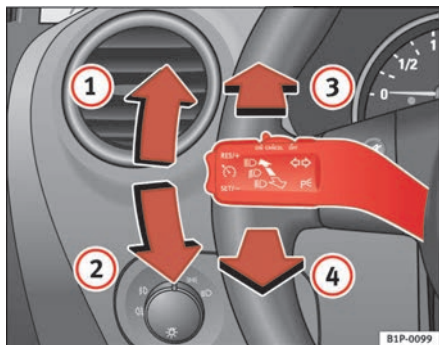

Fig. 77 Turn signal and main beam headlight lever
- Move the lever all the way up ⇒ fig. 77 ① to indicate **right**, and all the way down ② to indicate **left**.
- Press the lever forward ⇒ fig. 77 ③ to switch on the main beams.